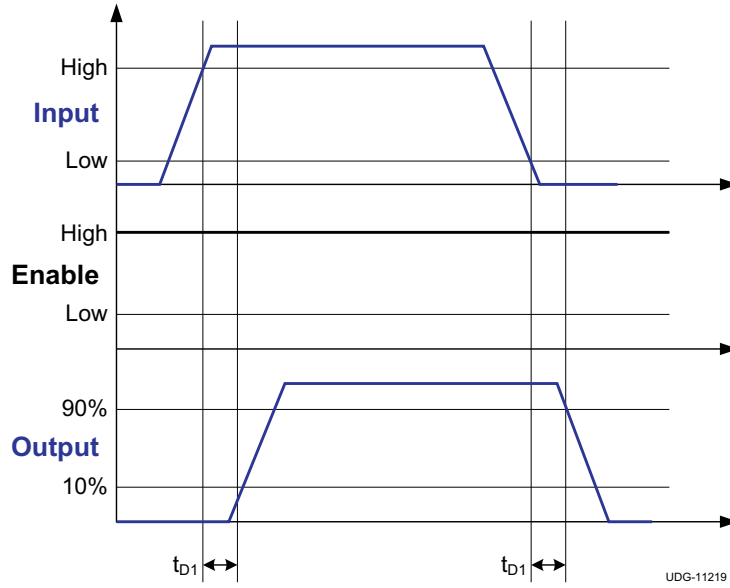

Figure 1. Non-Inverting Configuration
(1) Ensured by Design.
(2) ROH represents on-resistance of P-Channel MOSFET in pullup structure of the output stage of the UCC27518A-Q1 and UCC27519A-Q1.
(3) See timing diagrams in Figure 1, Figure 2, Figure 3 and Figure 4.